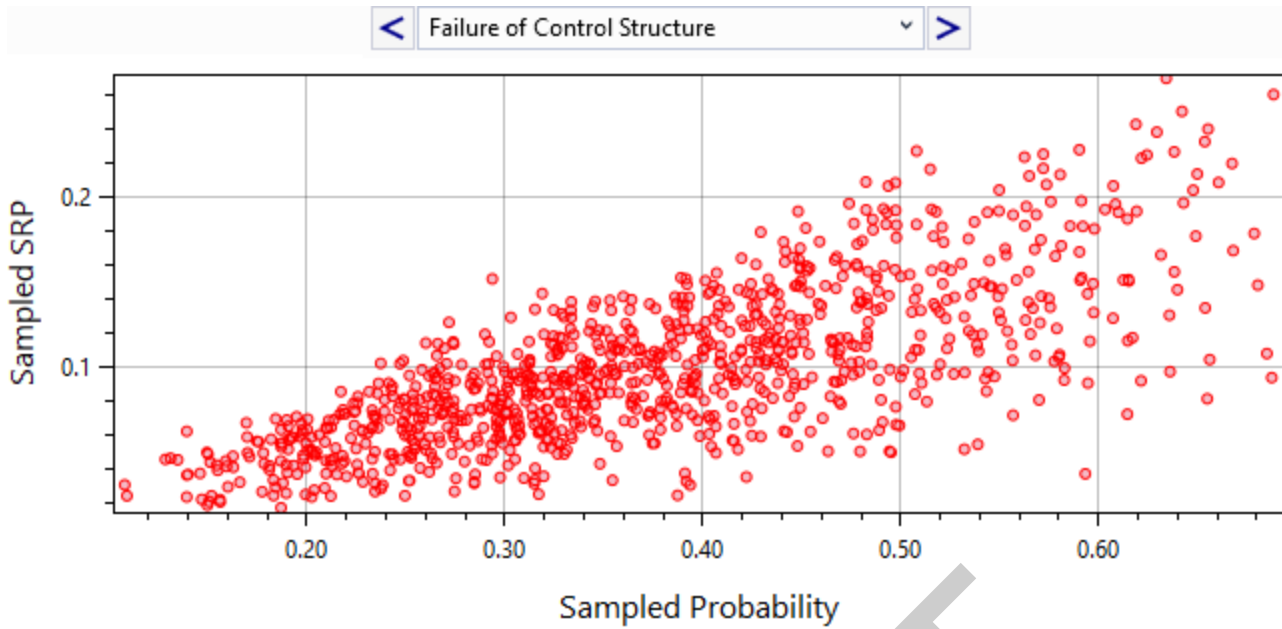

Figure 96 – Event tree diagnostics tree node probability to SRP scatter plot.
- **Node SRP Scatter** This option allows the user to see the sampled values for a given node plotted against the overall SRP for each Monte Carlo iteration. A node with a strong correlation to SRP will show a clear trend between the sampled node probability and overall SRP as shown in Figure 96 below.